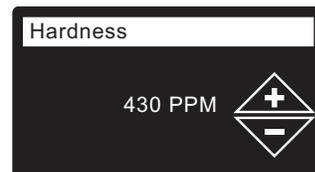

FIG. 23
13. **HARDNESS** Press the UP (▲) or DOWN (▼) buttons to set the value of your water's hardness (See Figure 23).